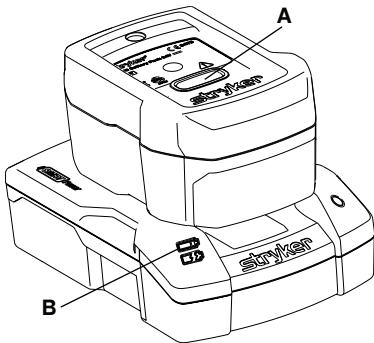

Figure 50 – Charging the SMRT Pak
To charge the **SMRT** Pak (Figure 50):
- The **SMRT** charger LED indicator (B) will flash green while charging (Figure 50). The optimum charge time is two hours.
- When the **SMRT** Pak is charged and ready for use, the **SMRT** charger LED indicator (B) will turn to solid green.
2. Press the red release button (A) (Figure 50) and slide the **SMRT** Pak to release the charged and ready **SMRT** Pak from the **SMRT** charger.